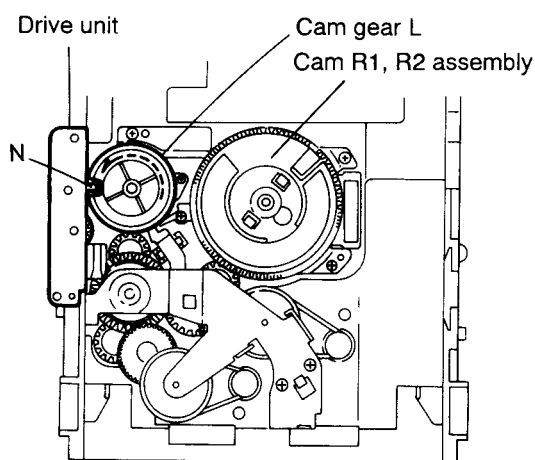

Fig. 5-45
2. While turning the cam gear L, align the pawl (N) position of the drive unit to the notch position (Fig. 5-45) on the cam gear L.